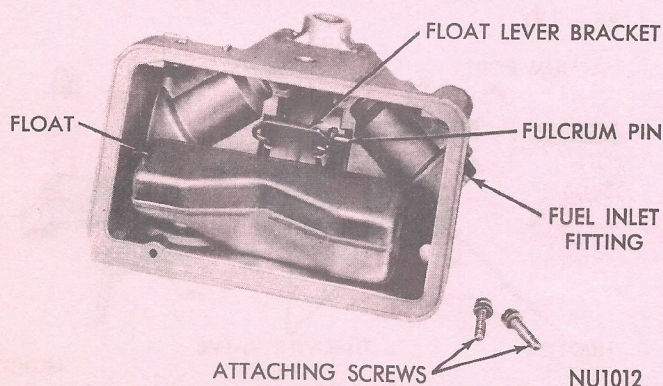

Fig. 13—Removing Float Assembly
(3) Remove screws that attach float lever bracket to fuel bowl. Remove float, spring and fulcrum pin from fuel bowl (Fig. 13).